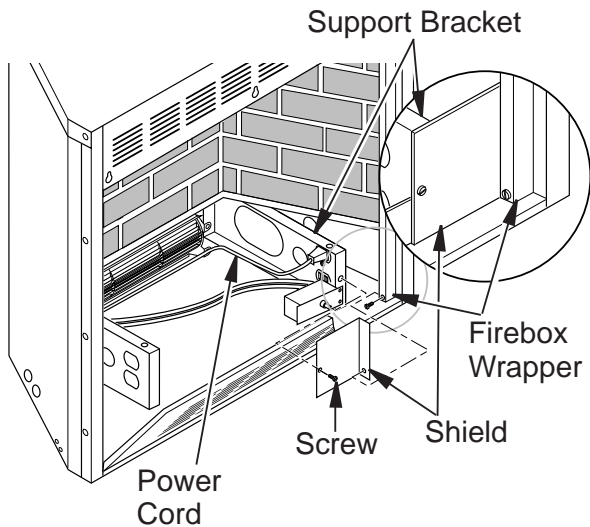

Figure 15 - Installing Shield to Support Bracket
5. Install shield to end of right support bracket and behind the firebox wrapper with 2 screws provided (see **Figure 15, Page 11**).